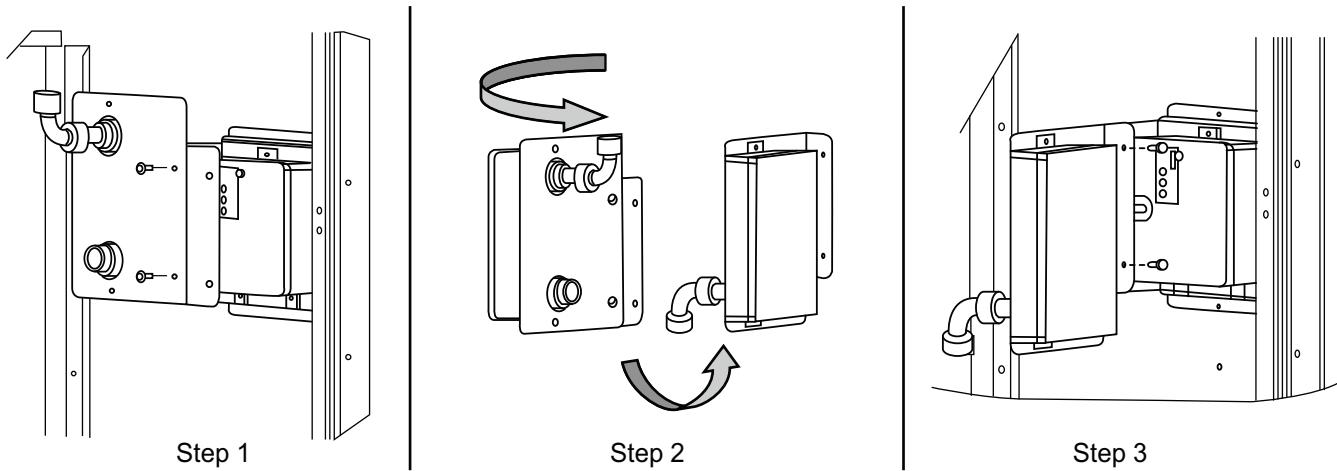

Fig. 22 — Completing Installation of Return-Air Smoke Sensor
1. Unscrew the two screws holding the return air smoke detector assembly. See Fig. 22, Step 1. Save the screws.
2. Turn the assembly 90 degrees and then rotate end to end. Make sure that the elbow fitting is pointing down. See Fig. 22, Step 2.
3. Screw the sensor and detector plate into its operating position using screws from Step 1. See Fig. 22, Step 3.